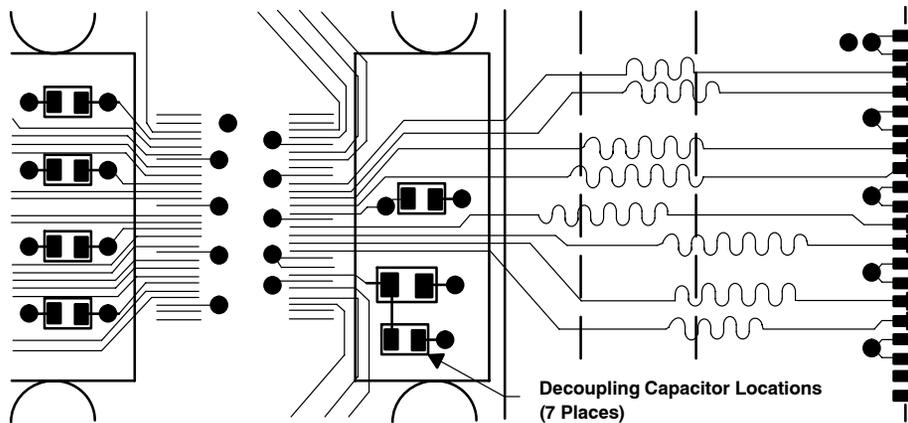

Figure 3. Transmitter Layout Example
- The physical length of each trace between the transmitter outputs and the connector should be matched to within 5 mm of each other. This usually requires mitering of the traces as shown in Figure 3.